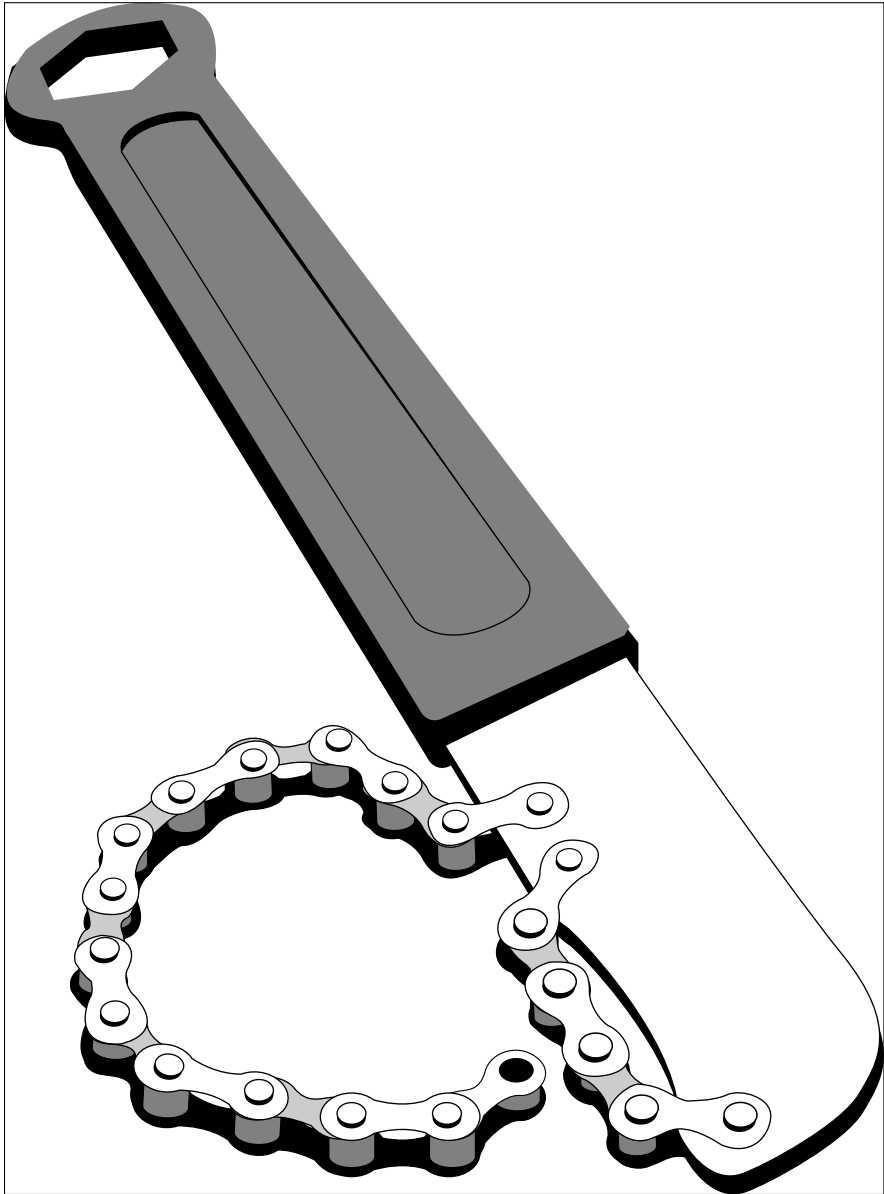

Figure 3-9: A chain whip.
- ✓ **Chain whip** (see Figure 3-9): A chain whip is used to hold the cogs in place while removing a cassette. Two of these can be used together to remove individual cogs from a freewheel.